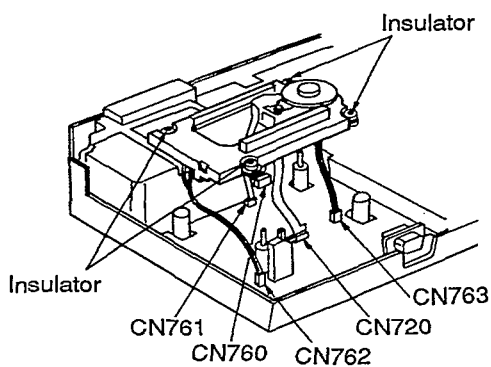

Figure 3
- (2) Remove the traverse cover.
- (3) Gradually raise the traverse unit and then disconnect the five connectors as shown in figure 3.